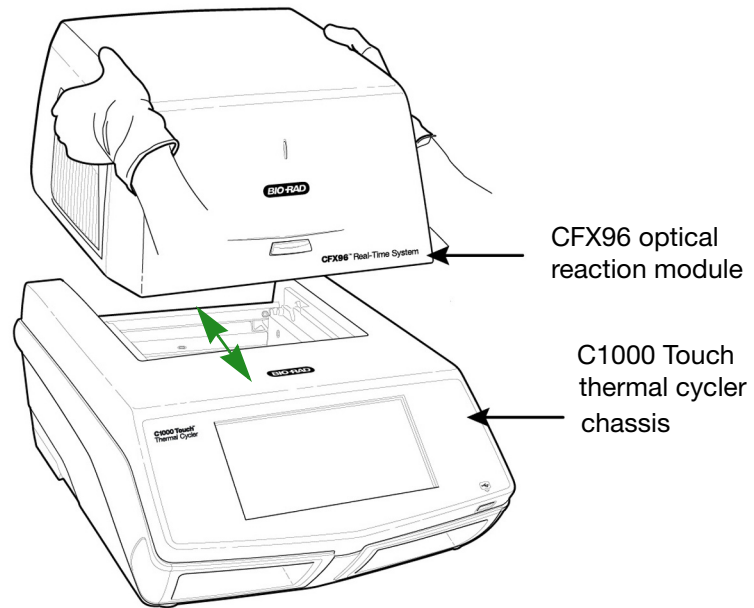

Figure 4. Lifting the optical reaction module into the C1000 Touch chassis.
2. Lift the optical reaction module using the handle indents above the side air vents (Figure 4).